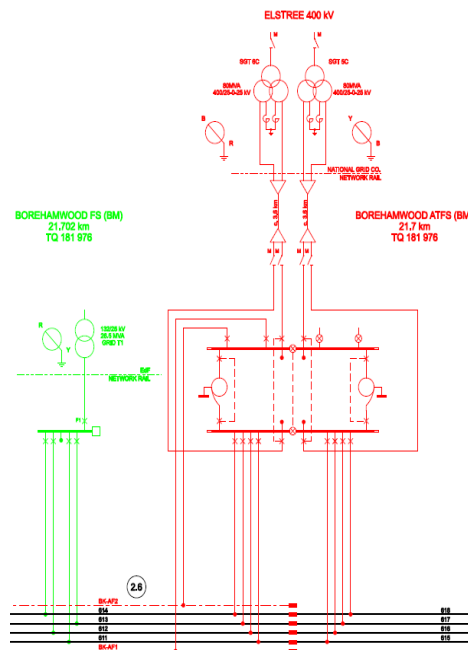

Figure 2 – Diagram showing the 25kV feeding changes at Borehamwood due to the AT system
- Replacement of three traction Feeder & Sectioning locations on the existing railway at Borehamwood (see figure 2), Grahame Park and Kentish Town (see figure 4);